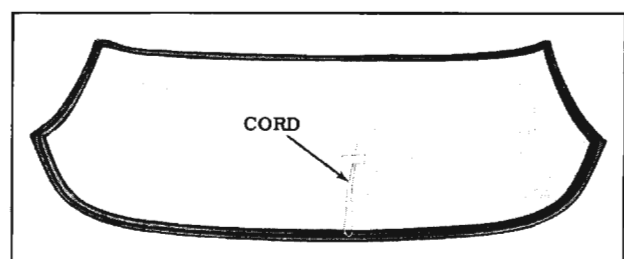

Fig. 16-211 Windshield Installation
- Insert a strong cord in pinchweld cavity of rubber channel completely around windshield. Tie ends of cord and tape to inside surface of glass at bottom center of glass. (Fig. 16-211)